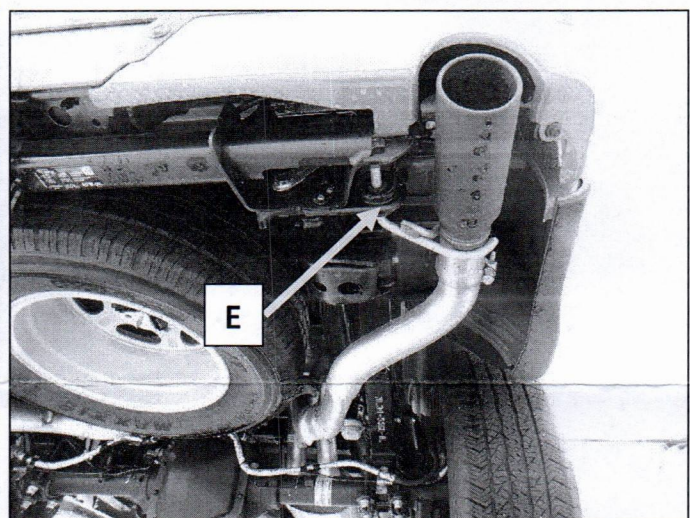

Figure 9
7. Install the tailpipe extension hanger on to the rear tailpipe hanger rod **(E)**. Align the bolt holes and mounting stud plate and install the M6 nuts. **Fig.9**